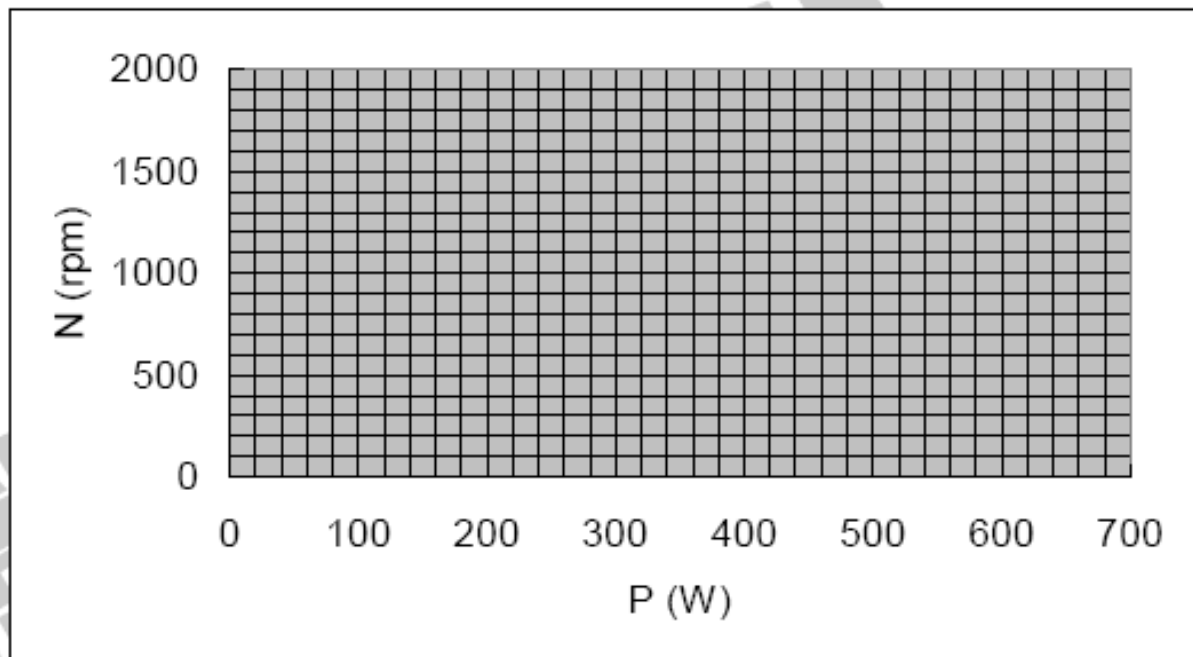

Fig. 12-6-6 The  $N$  vs  $P$  curve
12. Using the results of Table 12-6-1, plot the  $N$  vs  $P$  curve on the graph of Fig. 12-6-6.